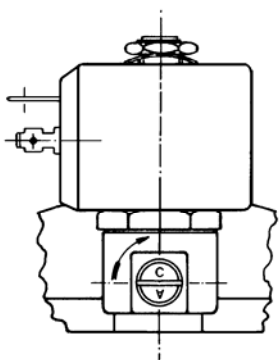

Fig.1
**Closed:** The letter “C” is in the upper position of the screw head (fig.1,2)
**Open:** The letter “A” is in the upper position of the screw head (fig.1,2)